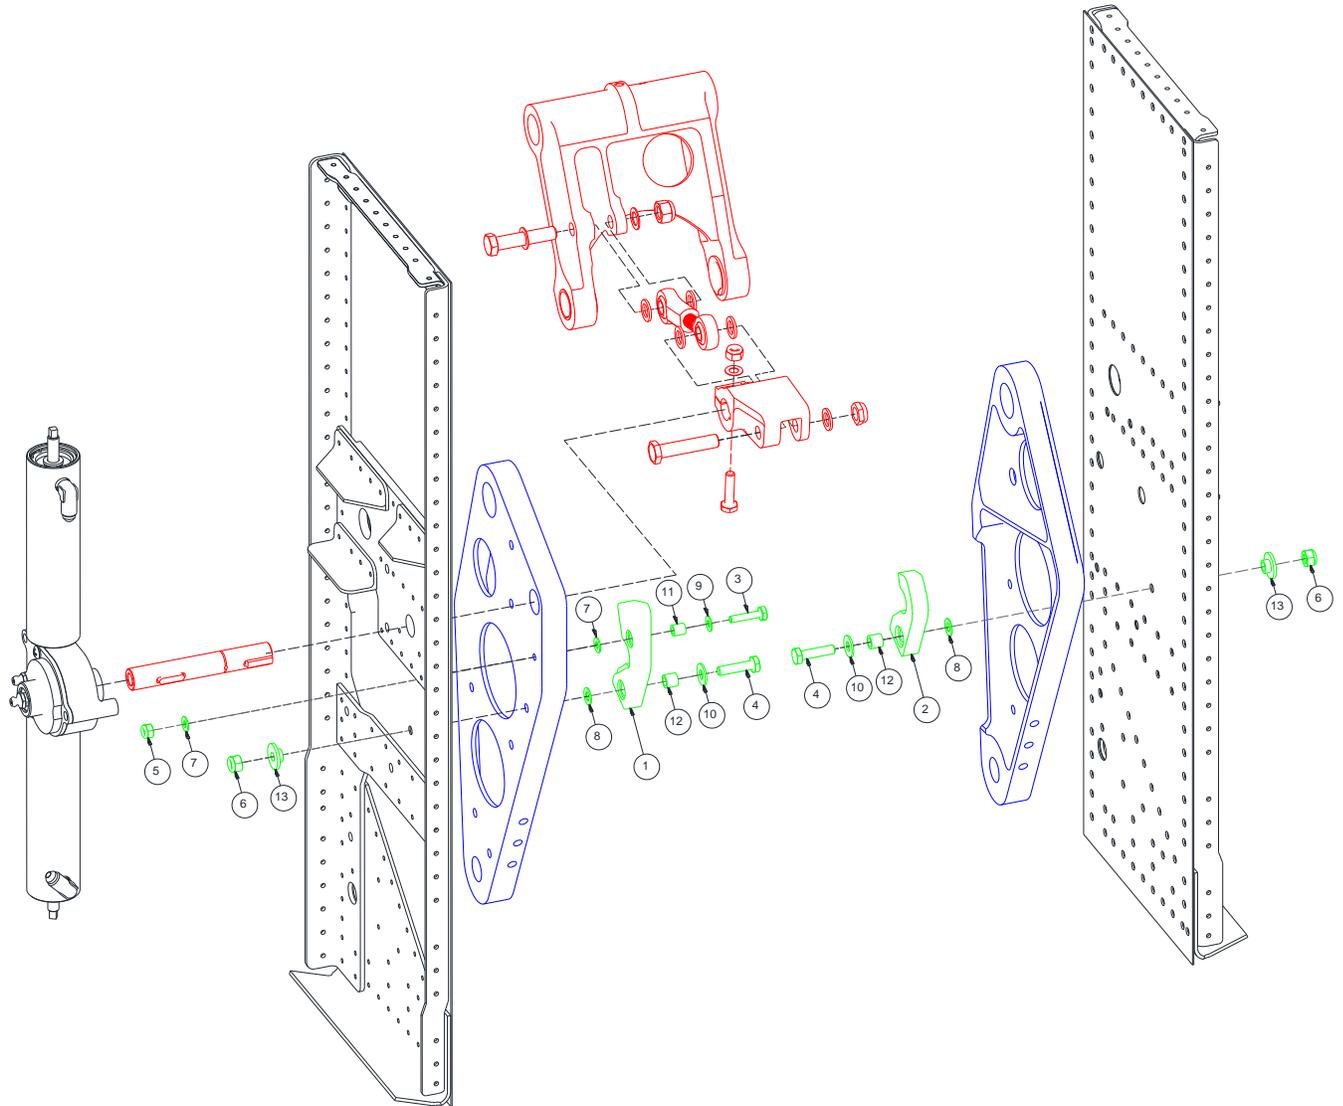

Figure 2
9. Install the new snubber block kit per Figure 2 below. New kit parts are shown in green. Make sure to include a washer on each side of the snubber block spacer before tightening.